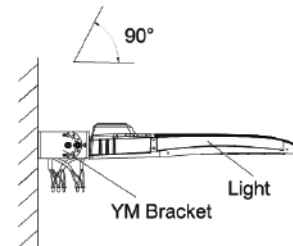

Figure 23
Step 3: Connect the fixture to the bracket and tighten the screws; connect the wires properly and put them into junction box.(Figure 23)
Notice: Adjustable angle is 0-90°(Figure 23)